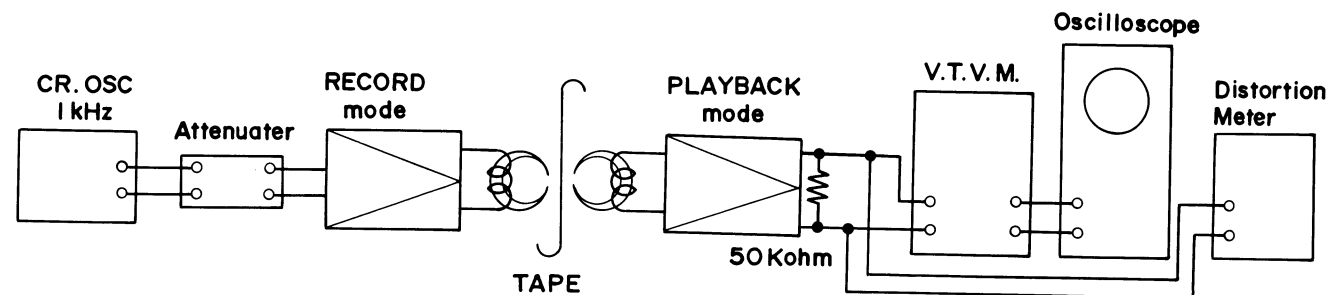

Fig. 26
8. MEASUREMENT OF RECORDING PLAYBACK SENSITIVITY VOLTAGE AND DISTORTION (Refer to Fig. 26)